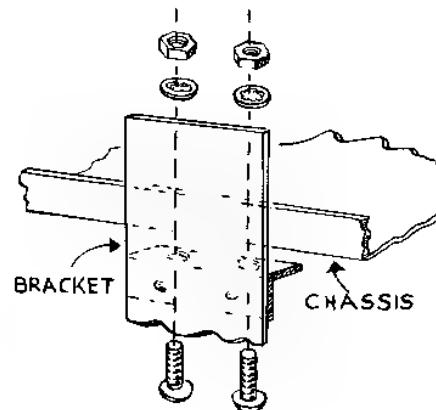

Fig. 13
- ( ) The large L mounting bracket should now be mounted on the chassis with two 6-32 screws, lockwashers and nuts (see Figure 13 for detail). The L bracket mounts to the panel by means of a meter mounting screw, lockwasher and nut.